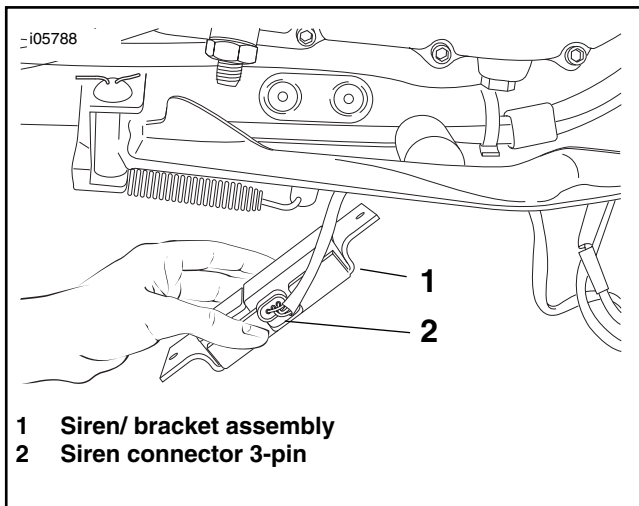

Figure 22. Removal of the Siren/Bracket Assembly
4. See Figure 22. Remove hardware, siren bracket, and siren from vehicle. Unplug siren connector from siren.